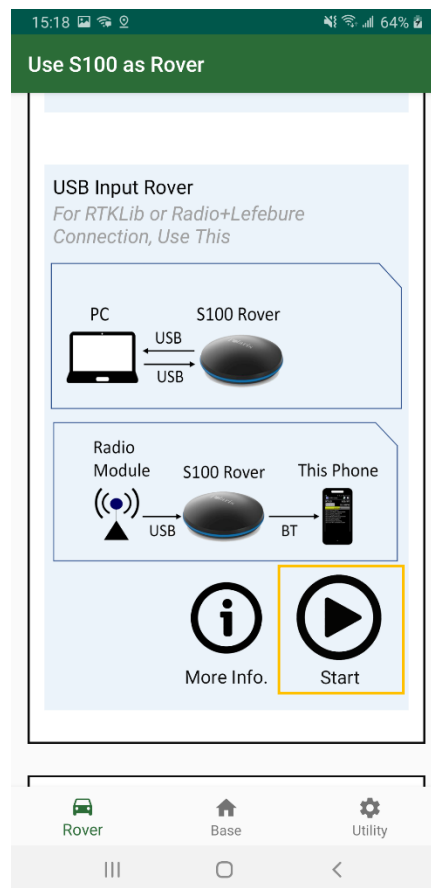

Figure 3-3
4. Start “USB Input Rover” mode. The app closes when S100 is configured to USB Rover. See Figure 3-3.